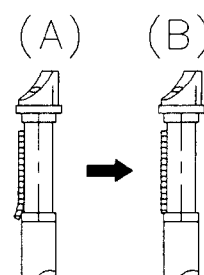

Fig. 5-4-4 No. 8 guide check
2. Adjust the ACE tilt adjusting screw until tape wrinkle is caused at the lower flange of No. 8 guide as shown in Fig. 5-4-4(A).
3. Turn the ACE tilt adjusting screw counterclockwise until the tape travels along the lower flange as shown in Fig. 5-4-4(B).